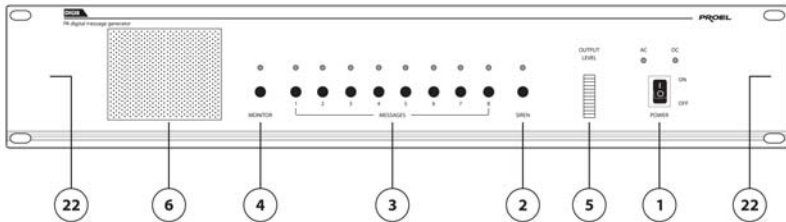
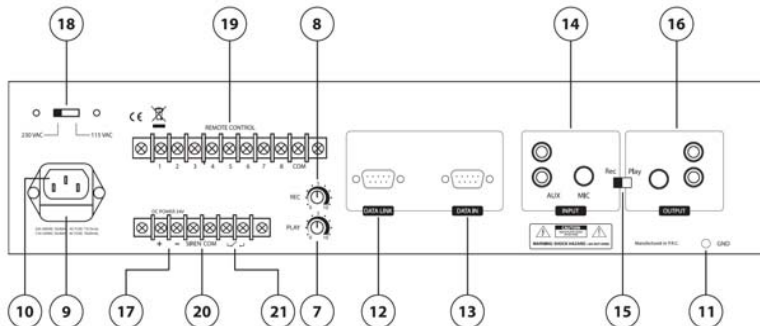

fig. 1
fig. 2
- To power the unit, connect in position 18 of **fig.2**, the power cord included in the unit package
- Do not use contemporaneously the main power supply (230 Vac) and DC power supply (24 V dc) to ensure a good unit operating . To access to DC POWER SUPPLY 24 V dc (**fig.2**), unscrew to remove the unit protection cover .
Position the rear selector (**fig.2** ref.15) on “PLAY”, activate any key corresponding to Message1 - Message8 or SIREN (**fig.1** reff.3/2), the recorded message is played.
Position the rear selector (**fig.2** ref.15) on “REC”, press any key corresponding to Message1 - Message8 or SIREN (**fig.1** ref.3/2), the corresponding and recorded message is broadcasted .